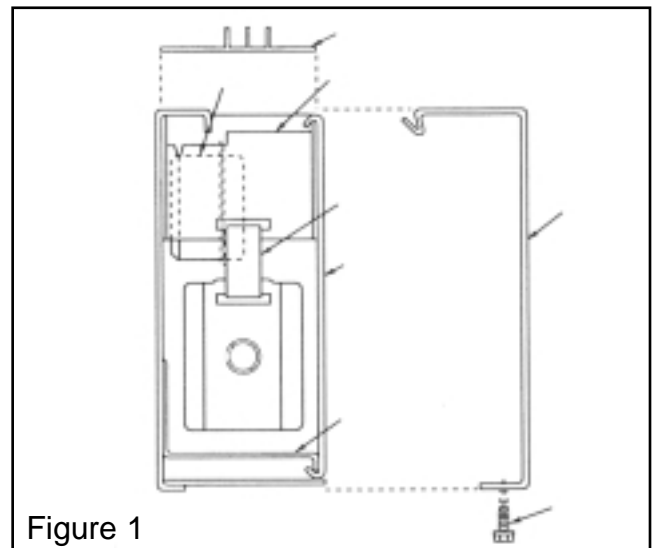

Figure 1
NOTE: Do not remove grille (12, Figure 1) during installation.
Disconnect power at source, remove junction box covers (1, Figure 1), remove front cover (4), remove ground wire connections from grounding screw in wiring box and unhook the element support hooks (16) from element bracket (5), and remove element.